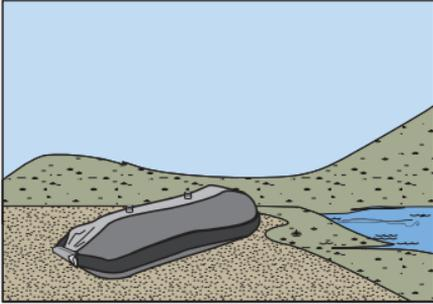

Figure LST-3. Pillow tank or bladder, an example of a portable tank used for intermediate storage of recovered fluids.
**Portable Tanks** – Portable tanks are constructed of fabric and may include: collapsible tanks, inflatable tanks, and pillow tanks (Figure LST-3). Collapsible “open pool” type tanks are made of a liner supported by a tubular frame that can be easily transported to a site and quickly erected to provide intermediate storage of liquids. Capacities range from 3 barrels to 130 barrels. Inflatable tanks use a liner supported by inflated tubes that form the frame of the tank. Inflatable tanks have capacities ranging from 3 to 300 barrels. Pillow tanks are closed, coated